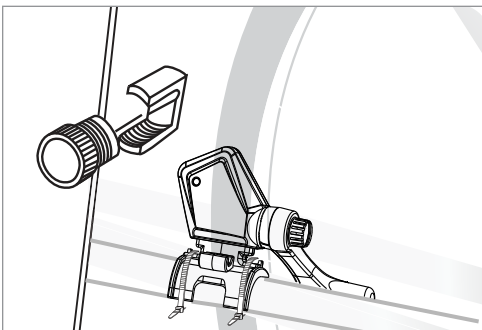

Figure 7
3. Using this sensor placement as a guide, position the wheel magnet in the approximate area that it will pass the sensor arm on the inside of the chainstay. The wheel magnet is tightened to the spoke by threading it into the magnet bracket that sits behind the spoke (fig. 7).